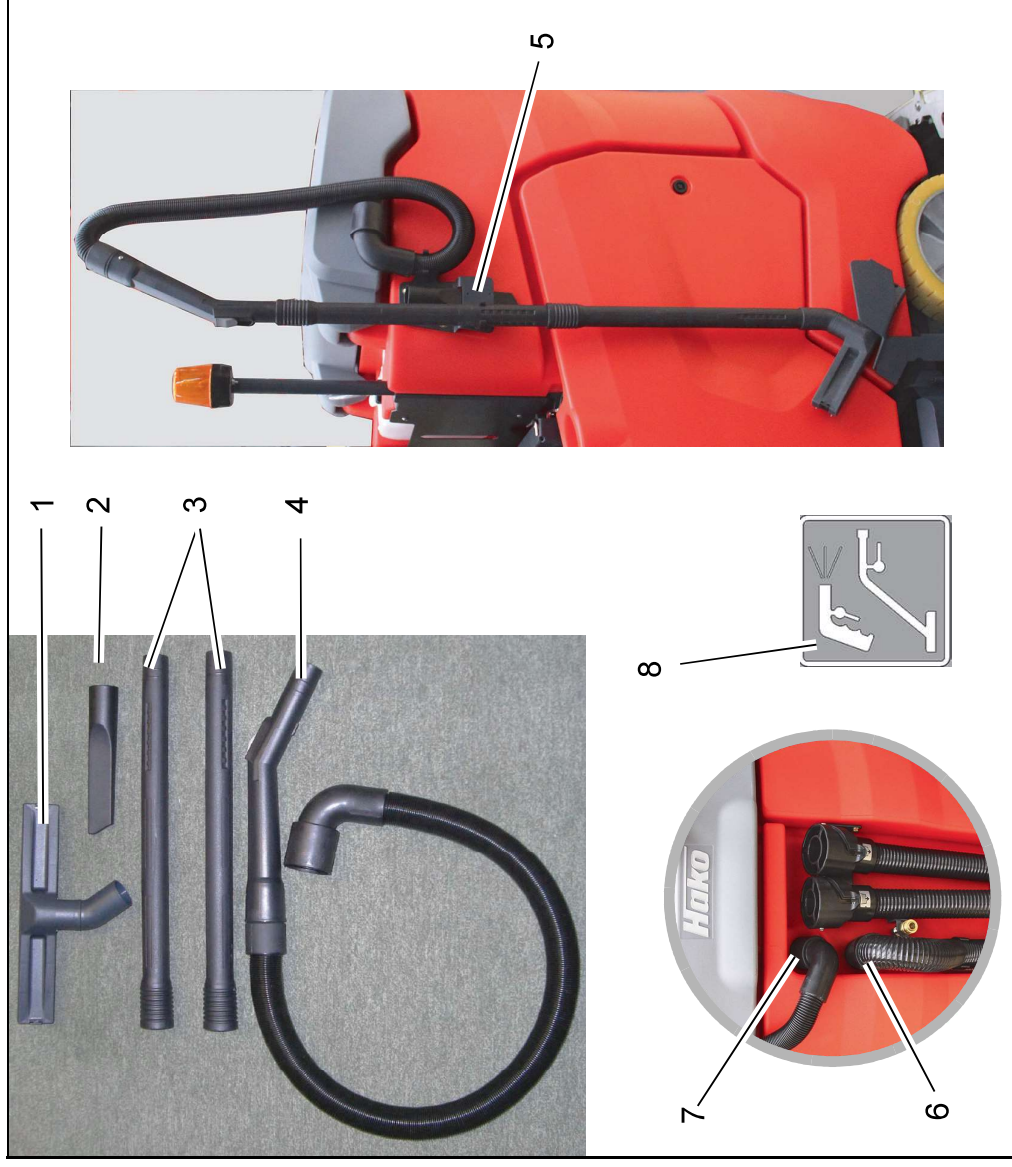

Fig. 1
1. Move suction hose of machine (Fig. 1/6) to park position.
2. Fit hose of tool into the opening of the vacuum system (Fig. 1/7). Use the *Tool Operation* button (Fig. 1/8) on the control panel to switch the tool on and off. Tool operation is only possible if the operator is not sitting on the seat.